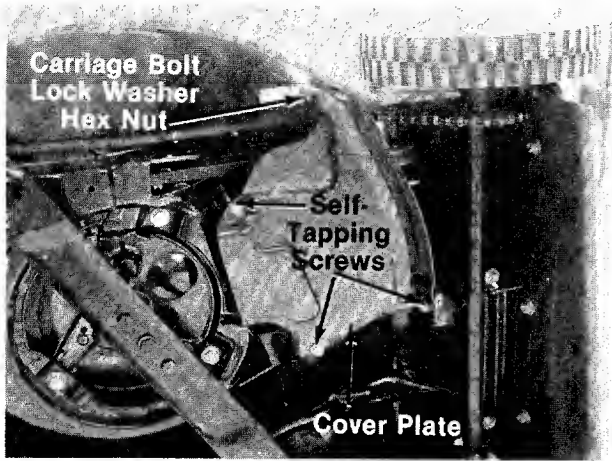

FIGURE 26.
5. Remove three self-tapping screws, and one carriage bolt, lock washer and hex nut from cover plate. See figure 26. Remove the cover plate.